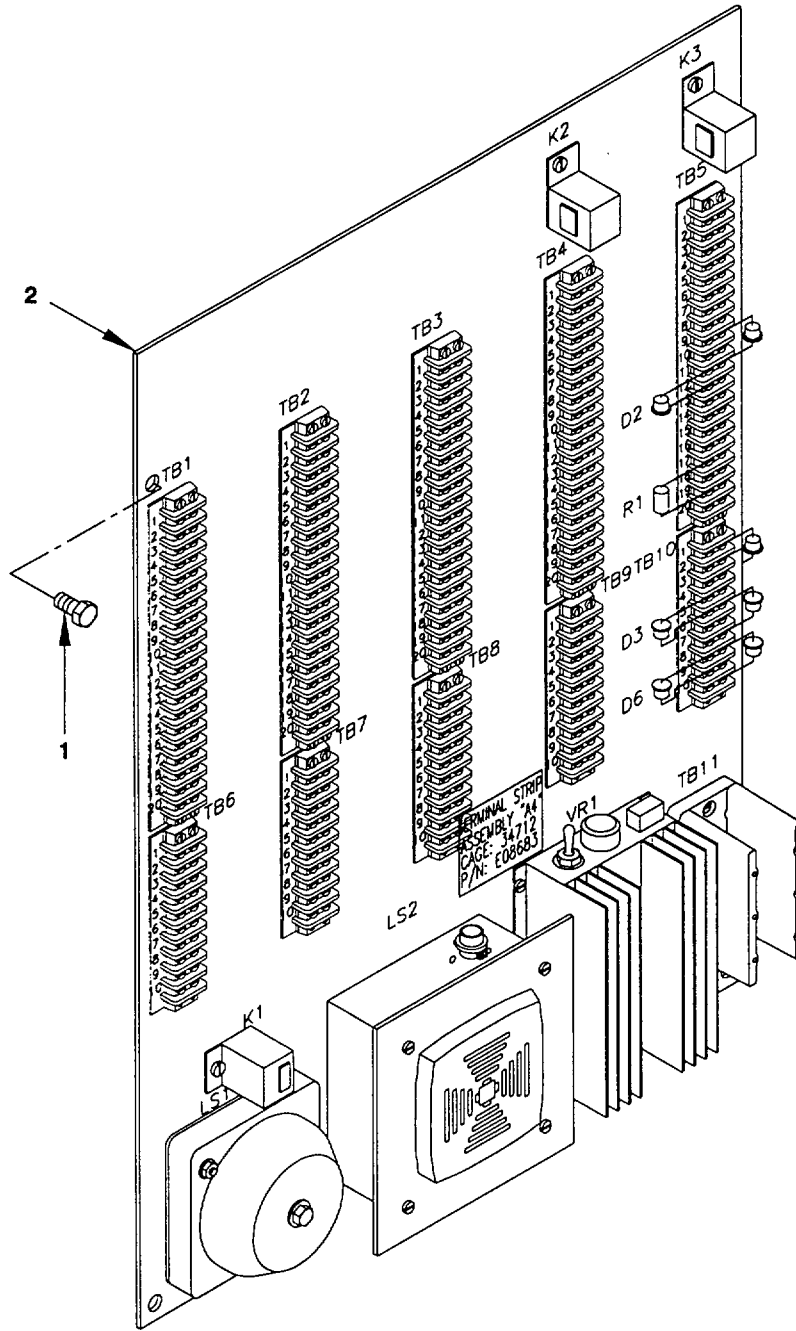

Figure 2-134. Terminal strip "A4" Assembly, Remove/Install.
- a. Remove. (figure 2-134)
- (1) Disconnect and tag electrical wiring to terminal strip assembly (2). Refer to Appendix G.
- (2) Remove four self locking hex head capscrews (1) securing terminal strip assembly (2). Remove terminal strip assembly (2).
- b. Install. (figure 2-134)
- (1) Position terminal strip assembly (2). Secure with four self locking hex head capscrews (1).
- (2) Reconnect electrical wiring, as tagged, to terminal strip assembly (2). Refer to Appendix G. Use tie wraps and mounting bases to secure any loose wiring.